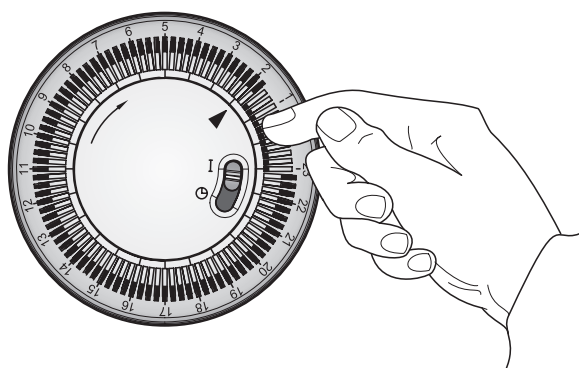

Fig. 5
Set the operation mode using the slide switch on the timer - see **Fig.5**:
1. Using your fingertip or tip off a pencil, push in as many segments as necessary around the dial, according to the times you don't require heat - see **Fig.5**. Each segment pushed in switches the heater OFF for that part of the hour. All other segments will be ON. For example, **Fig.5** shows the timer set to switch the heater OFF between 11pm and 1.45am.